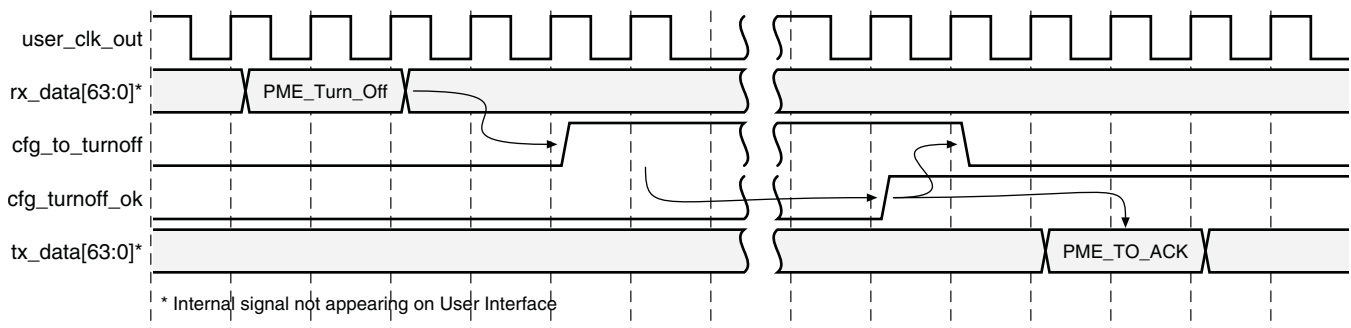

Figure 3-67: Power Management Handshaking: 64-Bit
4. The core sends a PME_TO_Ack when it detects assertion of `cfg_turnoff_ok`, as displayed in Figure 3-67 (64-bit).